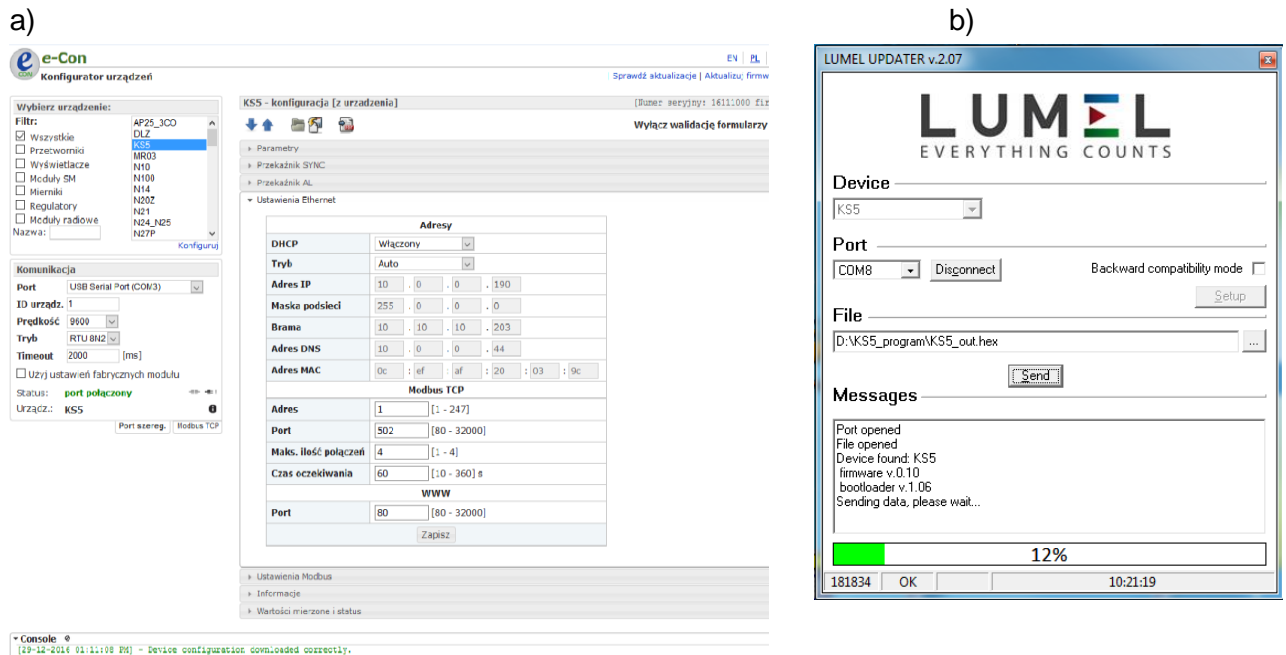

Fig.22. View of program window: a) eCon, b) firmware upgrade
After starting eCon the serial port, speed, mode and meter address should be set in the settings. Then select KS5 meter and click *Configure*. To read all the settings, click the down arrow, then the floppy icon to save the settings to a file (to restore them later). After selecting *Update firmware* (in the upper right corner of the screen) *Lumel Updater* (LU) window will open - Fig. 22 b. Press *Connect*. *Messages* information window contains info about the progress of the upgrade process. When the port is properly opened the display shows: *Port opened*. There are two ways to enter the upgrade mode: remotely through the LU (based on settings in eCon - address, mode, speed, COM port) and by turning on the meter power by pushing the button  (when entering the bootloader mode with the button, communication parameters: speed 9600, RTU8N2, address 1). The display will show boot with bootloader version, and LU program will show the message *Device found* and the name and program version of the connected device. Press the "... " button and select the meter update file. When the file is properly opened the following message is displayed *File opened*. Press *Send* button. After successful upgrade the monitor switches to normal operation, and the information window shows *Done* and the upgrade duration. After closing the LU window, go to *Service Parameters*, select *Set Meter Defaults* and press the *Restore* button. Then press the folder icon to open the previously saved settings file and press the up arrow to save the settings in the meter. The current software version can also be checked by reading the greeting